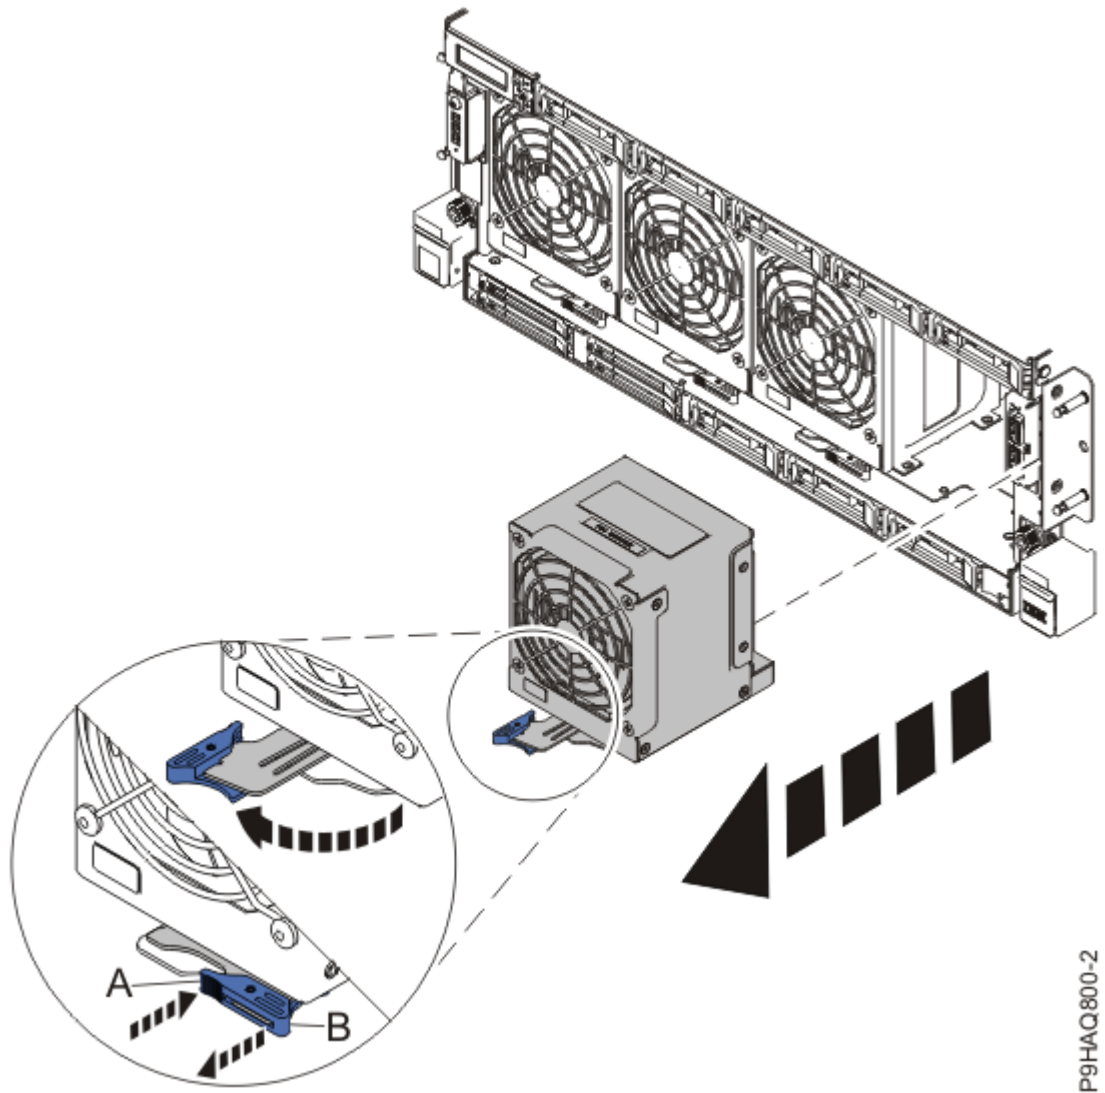

Figure 9: Removing the front fan
1. Put your thumb against the latch (**A**), and put your index finger against the latch (**B**), as shown in Figure 9 on page 11.